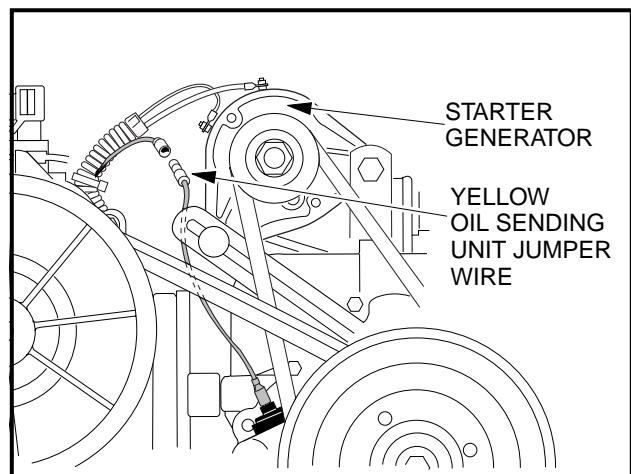

Figure 16-17 Oil Level Sensor Jumper Wire
- 3.12. Disconnect the engine oil level sensor wire (18 gauge yellow) at the connector just to the rear of the starter/generator (**Figure 16-17, Page 16-9**).